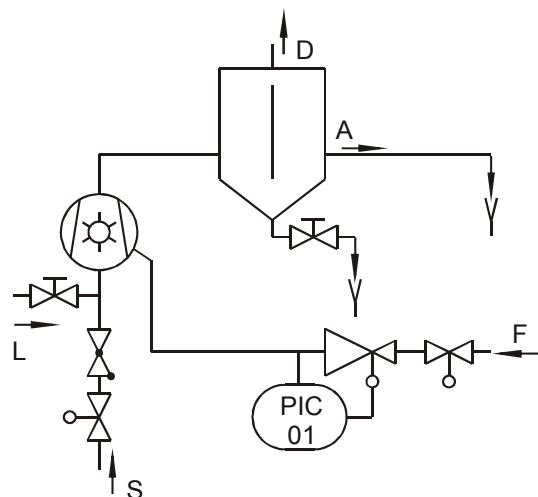

Fig. 13 Continuous-flow cooling
- Set the pressure in the operating liquid pipe to max. 0.2 bar overpressure (→Diagram Fig. 13)